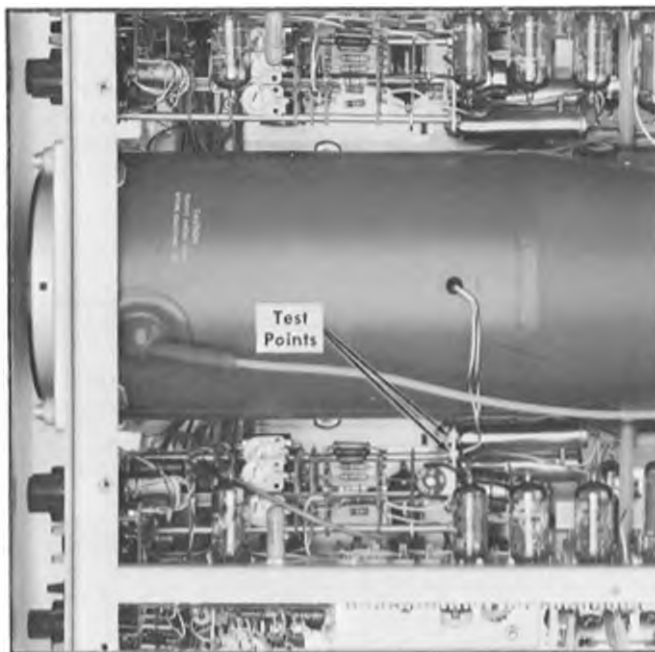

Fig. 6-16. Location of trace rotation coil test points.
- a. Set the voltmeter (item 9 of Recommended Equipment) to the 10 VDC scale.
- b. Connect the voltmeter leads across the trace rotation coil test points (see Fig. 6-16).